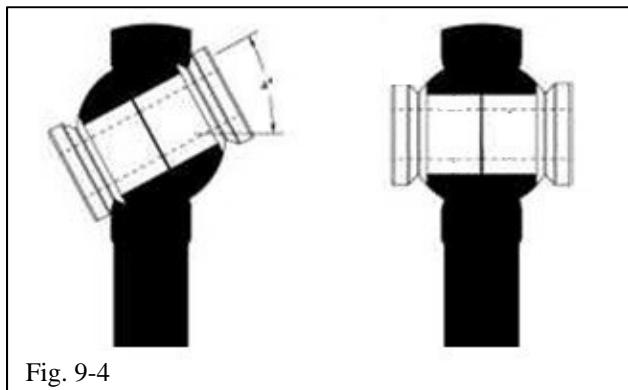

Fig. 9-4
**⚠ NOTE:** After the lock nut is torqued, return the tie rod end to its neutral position on the ball joint (Fig. 9-4).